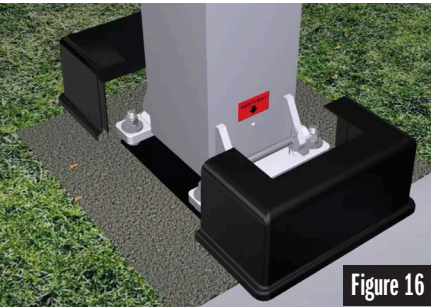

Figure 16
- Remove the screws from the Base Cover (Part G). See Figure 16.